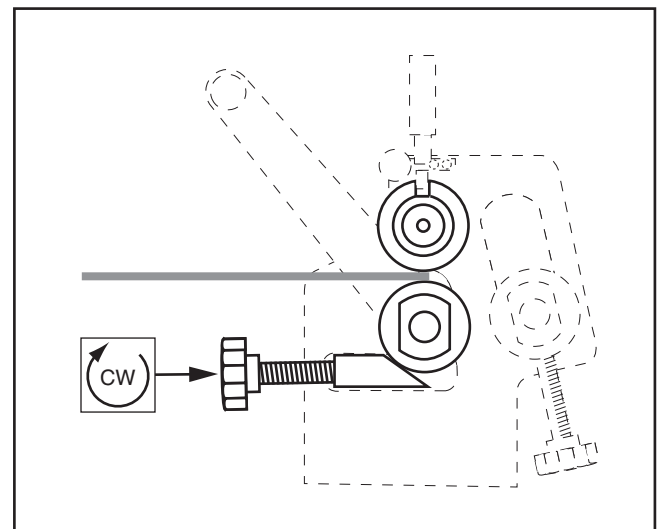

Figure 50. Raising lower roller.
14. Place workpiece between upper and lower rollers, as shown in **Figure 50**. Turn thickness adjustment knobs to raise lower roller until workpiece is held snugly between upper and lower rollers. Make sure to turn knobs equal amounts so lower roller is parallel with upper roller.